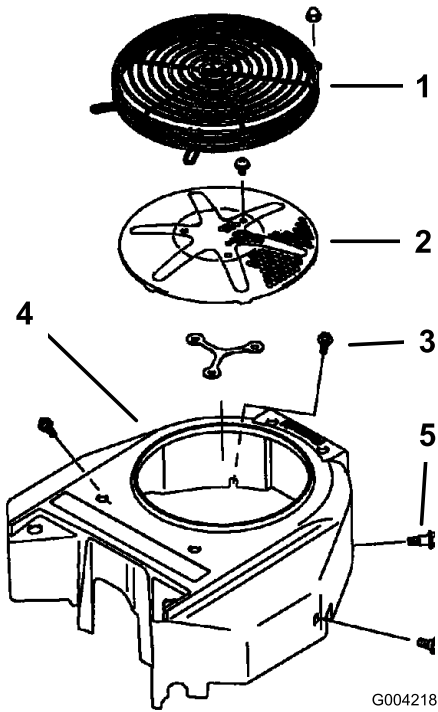

Figure 70
Before each use remove any buildup of grass, dirt, or other debris from the engine screen. This will help ensure adequate cooling and correct engine speed and will reduce the possibility of overheating and mechanical damage to the engine (Figure 70).
3. Remove the air intake screen, recoil starter and fan housing (Figure 70).
5. Install air intake screen, recoil starter and fan housing (Figure 70).